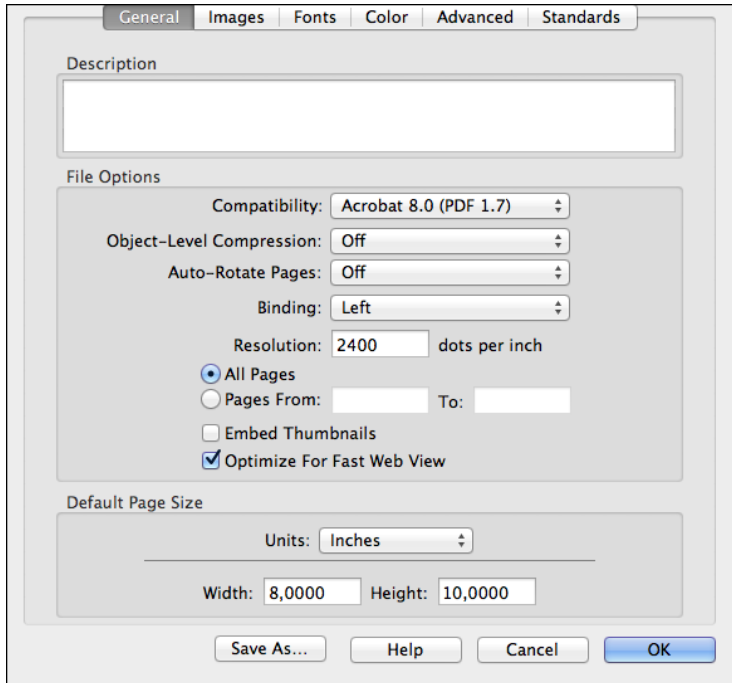

Fig. 15.1: Setting up `General` settings
- Start Acrobat Distiller, open `Settings > Edit Adobe PDF Settings...` and select the `General` tab to open the dialog shown in Fig. 15.1.